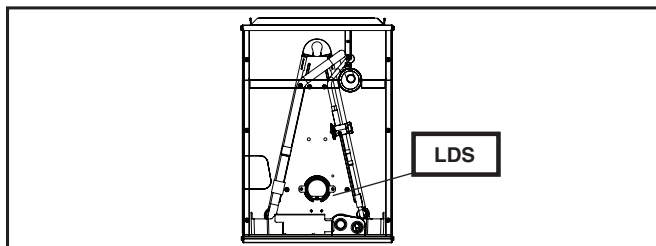

Figure 1. A2L Sensor location for C7 coils in vertical configuration.
- All C75 coils have a factory installed leak detection sensor (LDS) on the front delta plate of the coil as shown in figure 1. This location of the LDS is valid for upflow and downflow applications only. For all horizontal applications the LDS must be relocated as described further below.